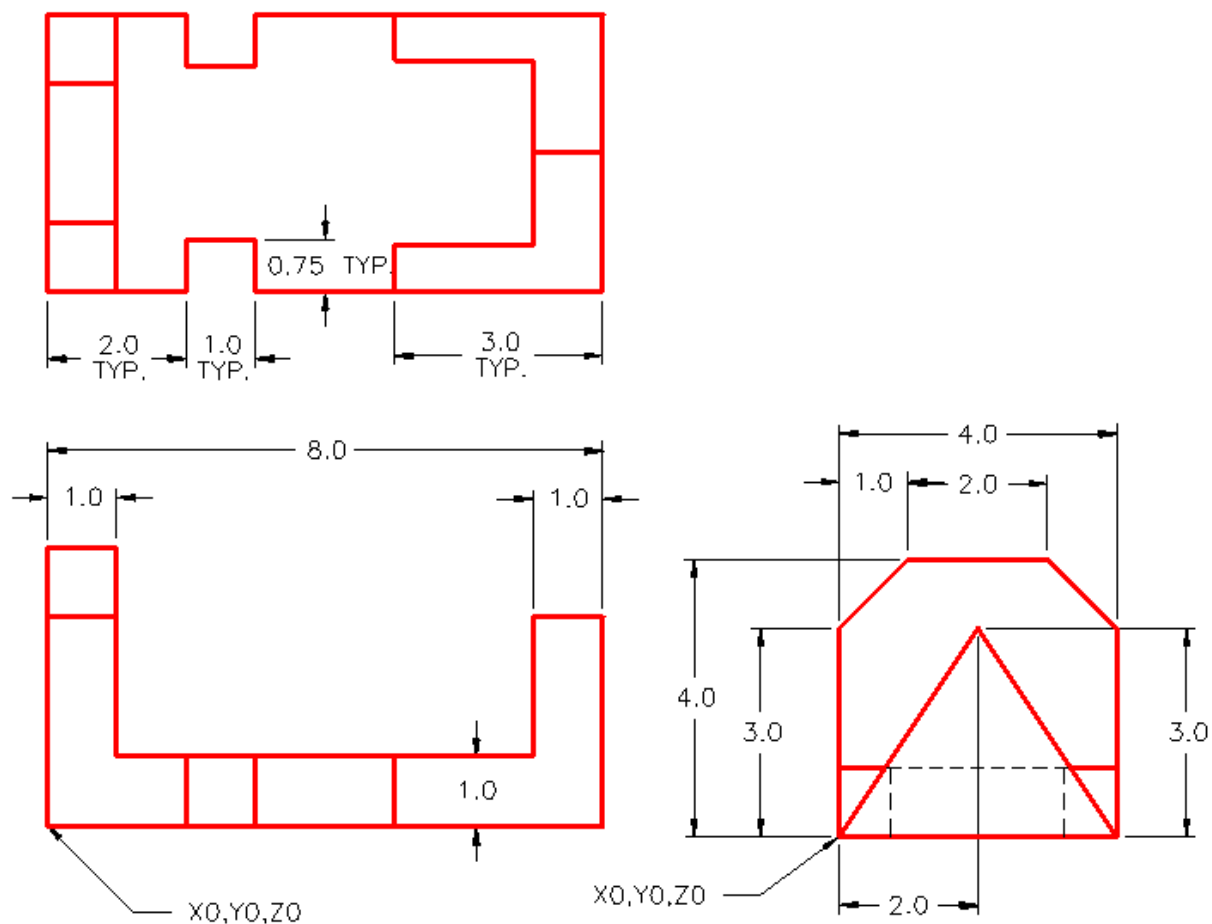

Figure Step 2A
Step 2 Draw a wireframe model of the object. (Figure Step 2A, 2B, and 2C)